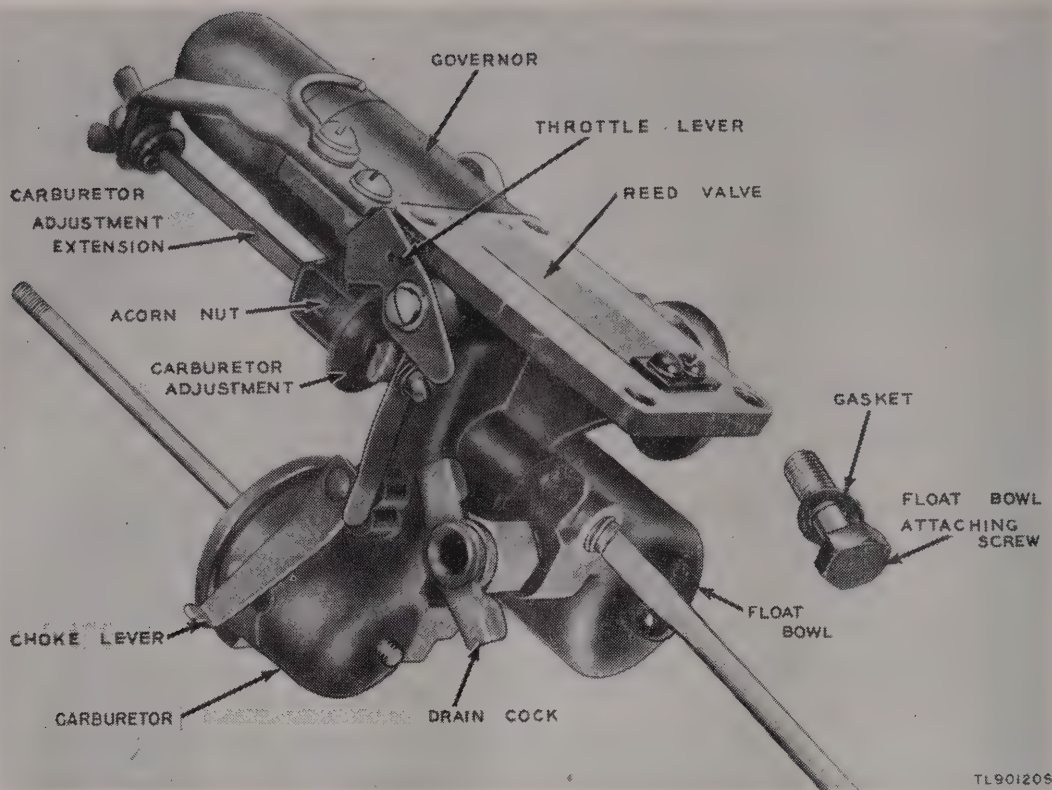
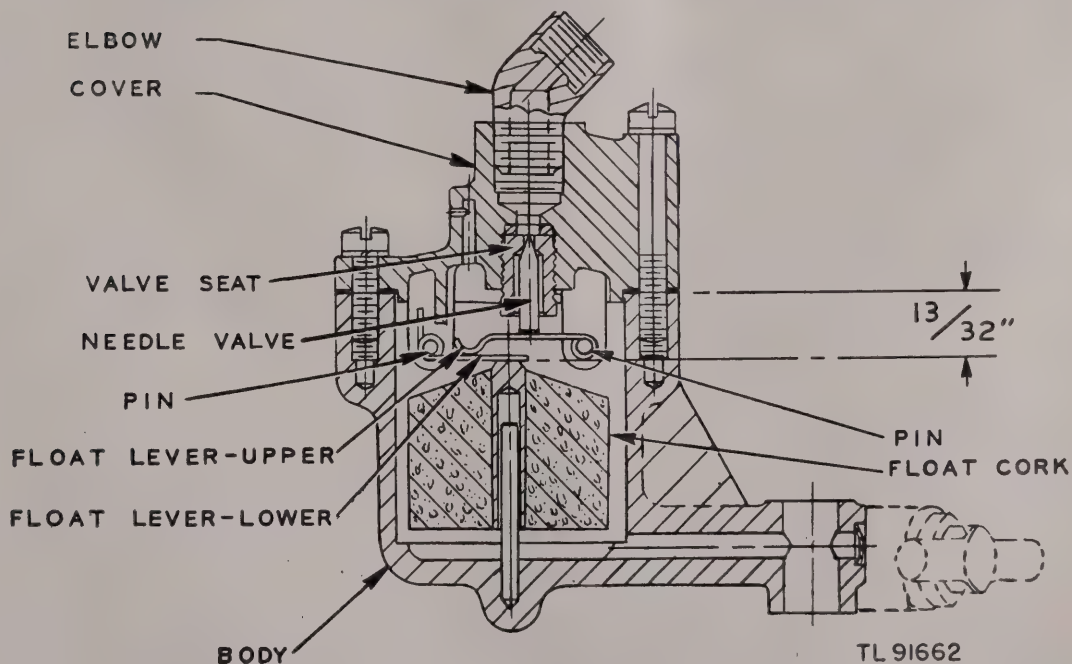

Figure 21. Replacing carburetor nozzle.
Figure 22. Carburetor float bowl, sectional view.
b. REED VALVE INSPECTION (fig. 21). Check the carburetor reed valve to be sure that it seats fully. The reed is concaved about 0.002 inch. *To function properly the concave side of the reed must seat against the back of the carburetor.* If the reed is bent, replace it. Remove any obstruction found under the reed.
- (1) Remove the adjustment extension (fig. 21).
- (2) Hold the adjustment knob with one hand and loosen the acorn nut on top of knob. Remove the acorn nut.
- (3) Take off spring and unscrew the needle valve by turning it in a counterclockwise direction.
- (4) Remove the screw (and gasket) that attaches the float bowl to the carburetor. With a narrow screwdriver inserted in the hole from which the screw has been withdrawn, unscrew and remove the carburetor nozzle.
- (5) Clean the needle valve and nozzle carefully with solvent (SD) and inspect for damage. Replace worn or damaged parts.
- (6) Using a screwdriver of correct width, screw nozzle back into carburetor body. Nozzle must be snug in body; do not over-tighten.
- (7) Attach the carburetor float bowl to carburetor with the float bowl screw and gasket.
- (8) Screw needle valve back into carburetor, turning it in a clockwise direction as far as it will go into the nozzle.
(9) Turn valve back about  $\frac{1}{8}$  turn.
(10) Replace spring and valve-adjustment knob with the knob against the left-hand side of the stop projection. Screw on acorn nut and tighten it, making sure valve does not move while the acorn nut is being tightened.
d. **FLOAT VALVE AND FLOAT** (figs. 22 and 23). If the engine floods easily when starting (even though it is not overchoked) or if it is not possible to adjust carburetor for satisfactory engine performance, the difficulty may be caused by a faulty float, needle-valve seat, or float cork. If any of these parts are not functioning properly, the level of fuel in the float bowl will be too high, thereby permitting fuel to flow into the air-bleed chamber. To determine that the needle-valve seat is seated properly and the the float levers are not bent too high nor too low, disassemble the float bowl and measure the distance from the lower lever to the face of the float bowl where the gasket is located. Proceed as follows:
(1) Remove the two screws and lockwashers that attach the cover to the float bowl, and remove cover.
(2) With the needle valve in the valve seat, place a straight edge (ruler) across the lower float lever parallel to the carburetor cover. Measure the distance from the bottom of the straight edge to the flange (on the cover) which rests against the gasket. This distance must be  $\frac{13}{32}$  inch. If the distance is not correct,